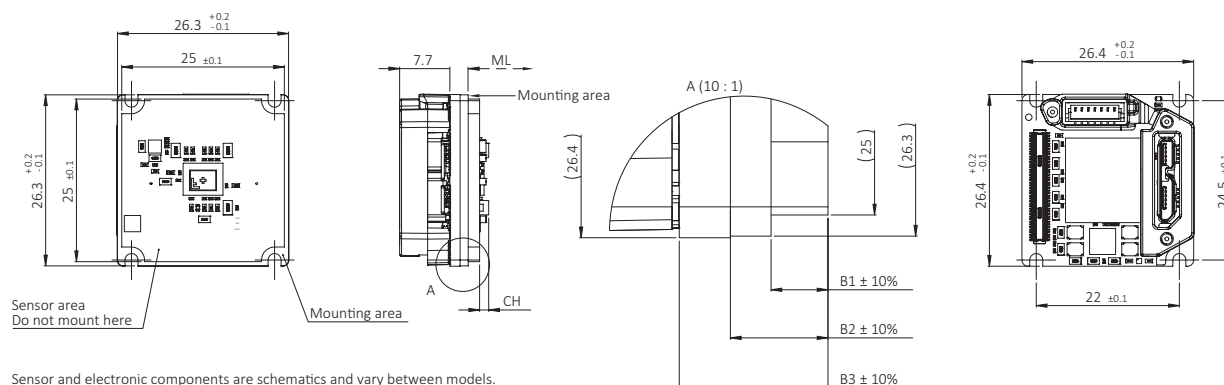

Figure 36: Bare Board dimensions
Dimensions that are common between different models are shown in Figure 36, model specific dimensions are listed in Table 64. **Mechanical length** (ML) defines the mechanical distance from the mounting area to the lens mount front flange, without optical filter. **Components height** (CH) relates to the electronic components with maximum height, in some cases the sensor.